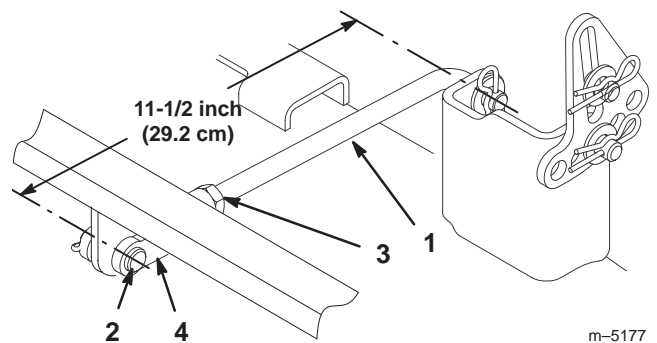

Figure 39
4. Measure the length of the rear trunion rod (Fig. 39). If the rod length is not 11-1/2 inch (29.2 cm), remove the clevis pin and cotter pin from the end of the rod (Fig. 39), loosen the jam nut, and turn the yoke until the 11-1/2 inch (29.3 cm) dimension is obtained. Then secure the yoke with the clevis pin and cotter pin. Repeat this procedure on the opposite side of the mower.
10. When the front-to-rear blade slope is correct, tighten the jam nuts (Fig. 39 and 41).